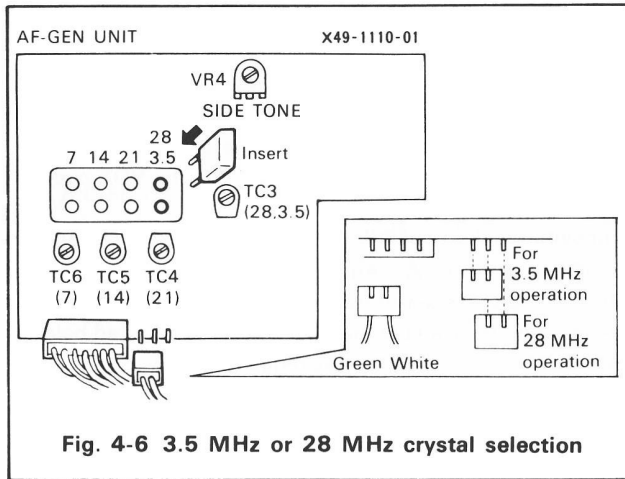

Fig. 4-6 3.5 MHz or 28 MHz crystal selection
4.6 FIXED CHANNEL OPERATION (Fig. 4-6)
For operation in the 3.5 MHz band, change the position of the connector from the 28 MHz to the 3.5 MHz position as shown in Fig. 4-6